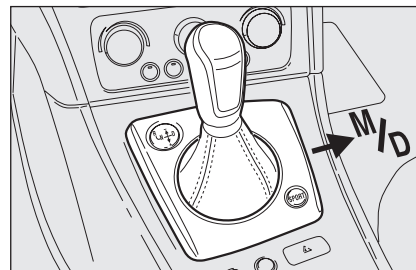

fig. 7
- ☐ move the gear lever to central position (between **+** and **—**) to engage the 1st gear, or to **R** to engage reverse keeping the brake pedal pressed. If in manual operating mode, move the gear lever to **M/D** (fig. 7) to engage the automatic operating mode;